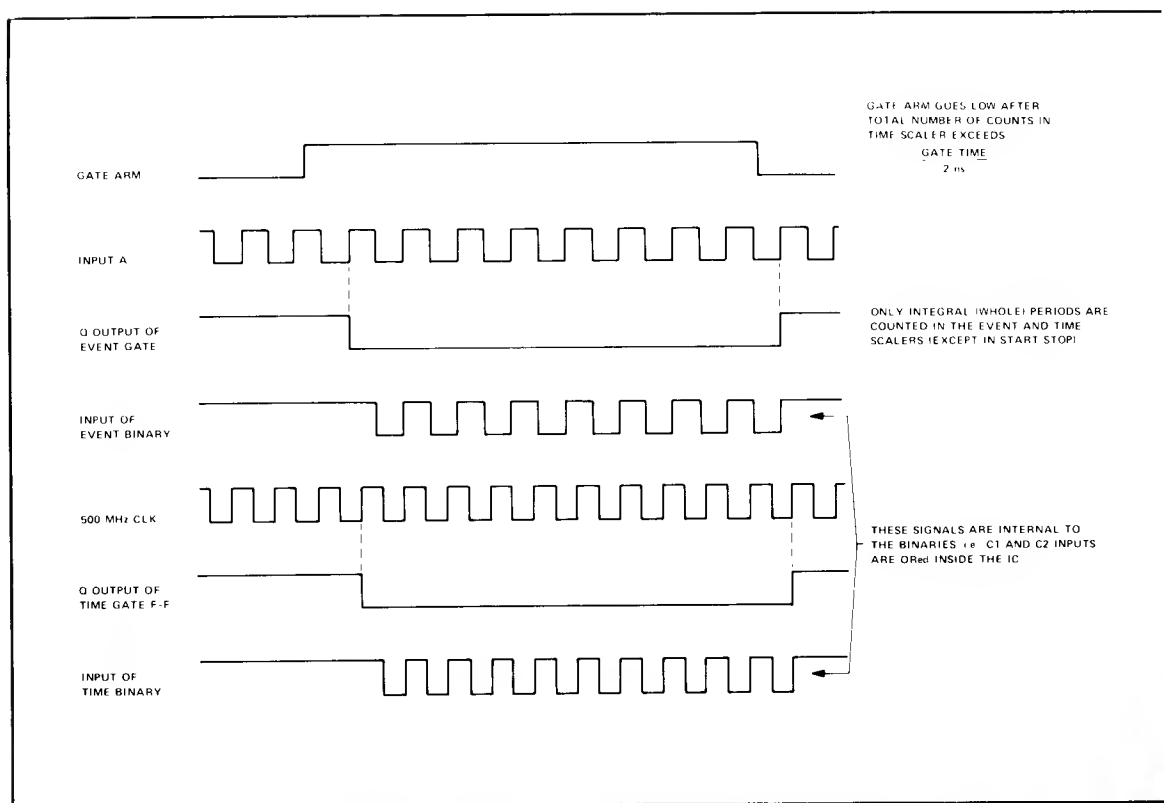

Figure 4-18. A9 Timing Diagram for Frequency, Period, Ratio, and Start/Stop
4-135. Noting the timing diagram of Figure 4-18, it is seen that once the GATE ARM line goes High (ECL), it places a Low (EECL) on U5(3). This allows the next input signal to toggle the Event Gate flip-flop. This does two things. (1) It places a Low on U4(14), which enables U4 and allows the next input pulse to enter the Event Scaler. (U4 is a binary of the scaler). (2) It places a Low on the D input of U7, which allows the next 500 MHz clock pulse to toggle the flip-flop and enable U2 with a Low on C1. This allows the clock signal to enter the Time Scaler. Binaries U4 and U2 pass their divided (+2) signals to U9 and U3, respectively, where the signals are further divided-by-10. The divide-by-20 input and clock signals are sent to the A11 Scaler board through emitter followers Q15-18.